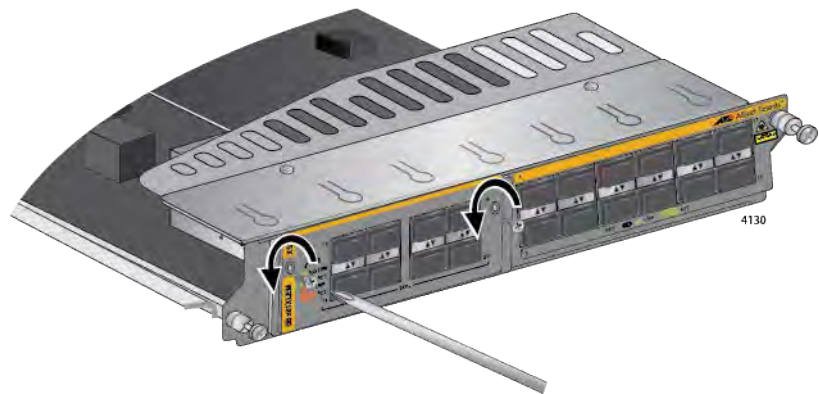

Figure 175. Removing the Screws from the Expansion Module
3. With a Phillips-head screwdriver, remove the two screws that secure the expansion module to the line card. Refer to Figure 175 on page 281.